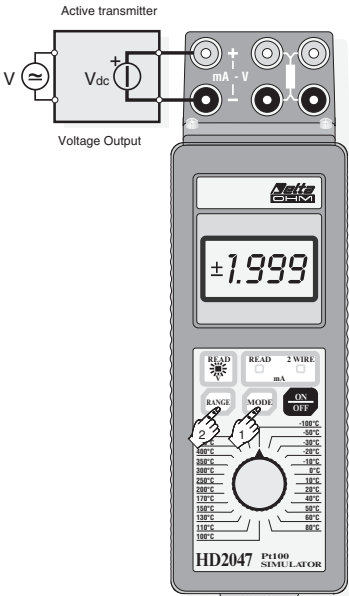

Fig. 1 Continuous voltage measurement
Procedure (see fig.1):
- connect the wires to the sockets, as reported in fig.1;